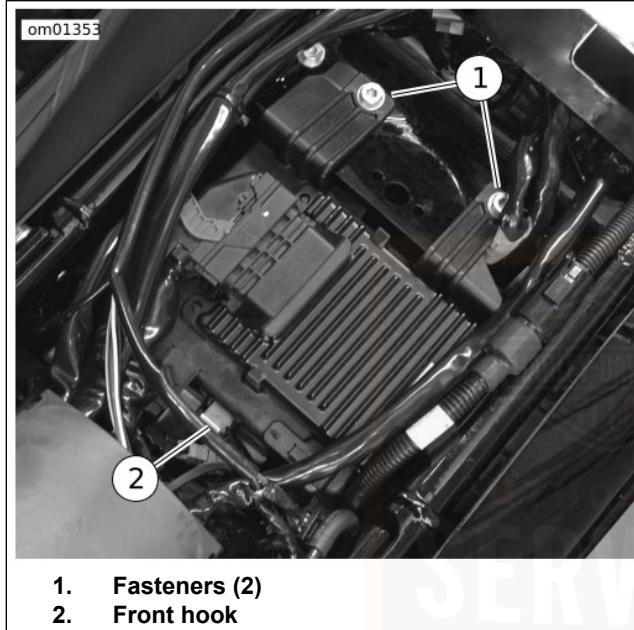

Figure 71. Top Caddy
2. See Figure 71. Remove two screws from rear of top caddy.
5. See Figure 71. Rotate top caddy into position above battery and engage front of caddy to the front hook.